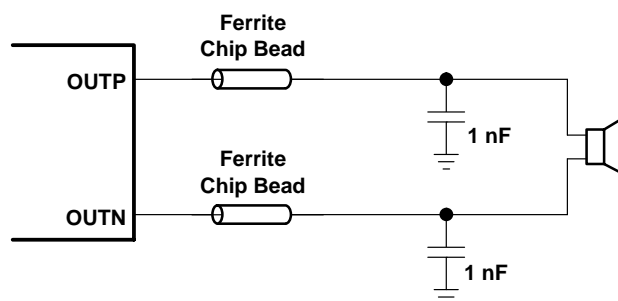

Figure 34. Typical Ferrite Chip Bead Filter (Chip bead example: Fair-Rite 2512067007Y3)
- Output filter — The ferrite EMI filter (Figure 34, page 24) should be placed as close to the output terminals as possible for the best EMI performance. The LC filter (Figure 33, page 24) should be placed close to the outputs. The capacitors used in both the ferrite and LC filters should be grounded to power ground.